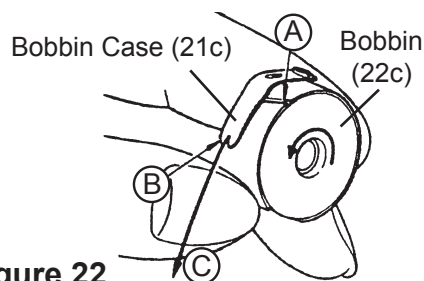

Figure 22
2. Following Figure 22, feed the thread through slit "A" and pull the thread in direction "C". By doing so, the thread will pass under the tension spring and exit at notch "B".